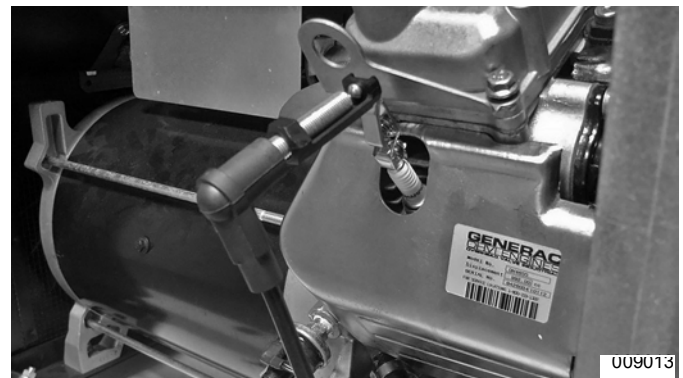

Figure 4-60. Checking Engine Miss
7. See Figure 4-60. To determine if an engine miss is ignition related, connect the spark tester in series with the spark plug wire and spark plug. Then, crank and start the engine. A spark miss will be readily apparent. If spark jumps the spark tester gap regularly, but the engine miss continues, the problem is in the spark plug or in the fuel system.